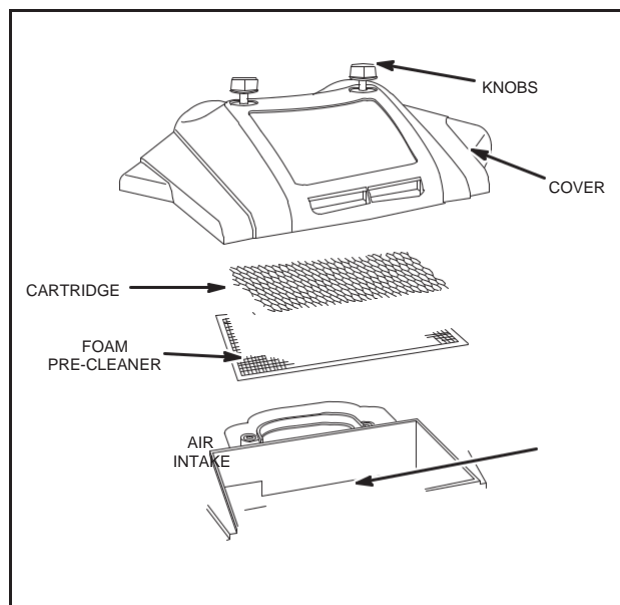

Fig. 4 – Dual Element Air Cleaner
Remove air cleaner cover, Fig. 4.
- Reinstall cartridge and air cleaner cover, Fig. 4.